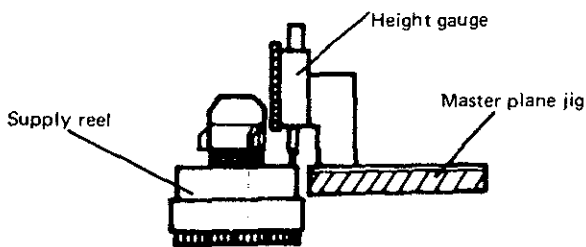

Fig. 15 Reel height adjustment
3. Check reel assembly height measure at two places 90° apart. (± 0.2 mm) (Fig. 15)